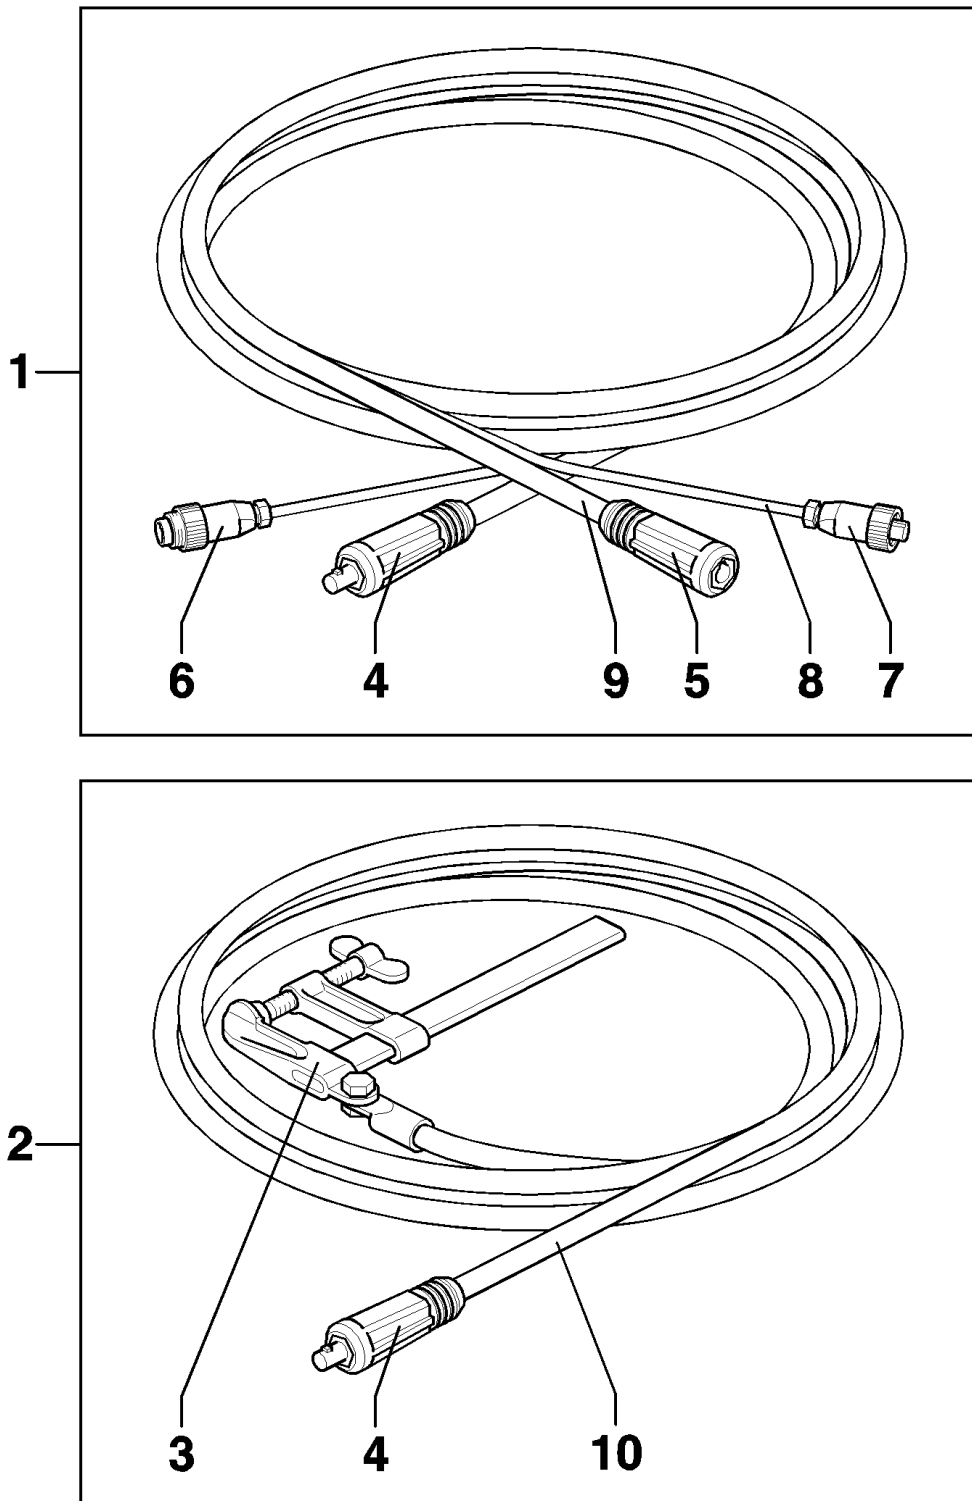

Figure 23: Welding cable extension and ground cable
For pos. 4, 5 and 6 see figure 23.